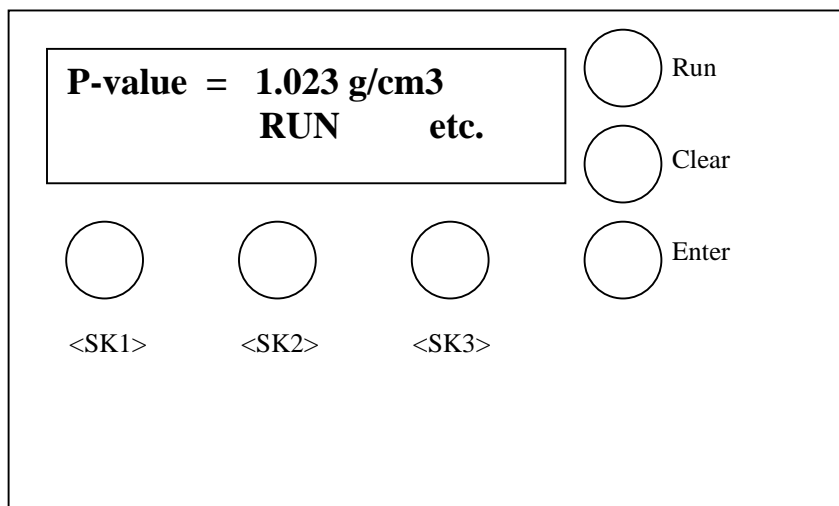

Figure 1
The parameters that set up the Density Transmitter and allow the user to perform the required operations are accessed through the keypad located on the front panel of the Transmitter (Figure 1). There are six (6) buttons, which allow the user to interface with the menu driven software that runs the Density Transmitter.